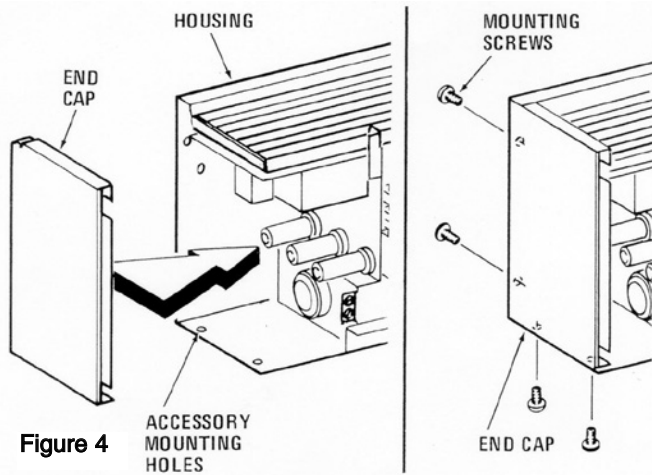

Figure 4
17. Before energizing, make sure front cover is properly installed onto the back housing along the entire length of the heater – See Fig. 4. Do not operate heater without front cover installed.
3. Install end caps (must be purchased separately) on both ends of the heater housing. Refer to Figure 4 for details of end cap installation.
- Install end caps (6) on the outer end of the last heater(7) and (9) using four #6 screws supplied with end caps. (Refer to Figure 4 for details of end cap installation.)